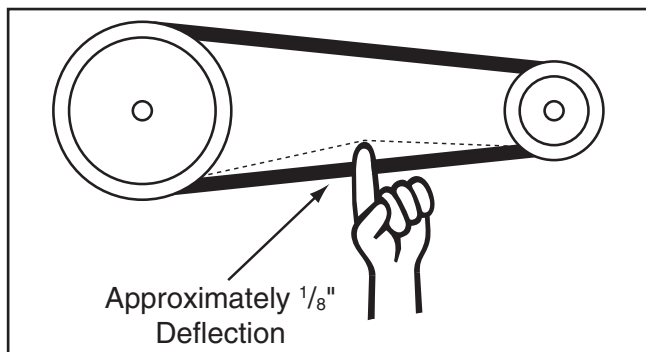

Figure 49. Checking for belt deflection.
- The V-belts tighten uniformly because of the idler pulley. Rotate the adjustment bolt until the V-belt has approximately $\frac{1}{8}$ " of deflection when moderate pressure is applied midway between the pulleys (see **Figure 49**), then re-tighten the jam nut and close the V-belt cover.